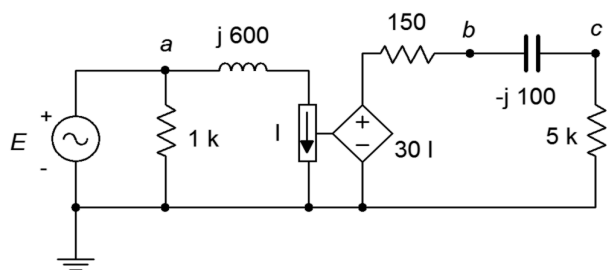

Figure 5.17
33. Determine the current through the 5 kΩ resistor in the circuit of Figure 5.17 if $E = 10\angle 0^\circ$.
34. Determine v_c in the circuit of Figure 5.17 if the source $E = 3\angle 120^\circ$.